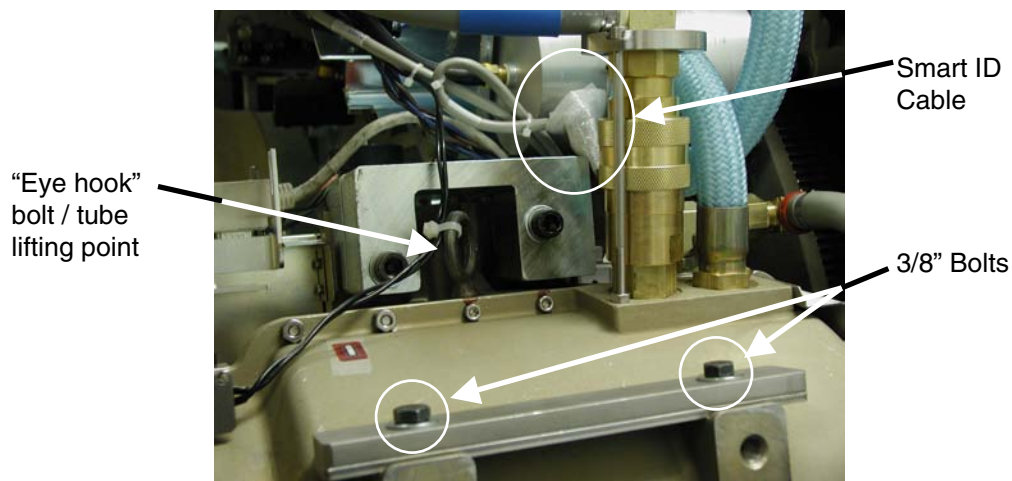

Fig 1 – Performix Pro Config without Smart ID
- 9) Connect Smart ID cable to Smart ID board. You will find this cable coming from the Jedi Inverter, connector J5, which also connects to the heat exchanger power i/f board. The Smart ID cable is the disconnected portion of the Y cable. See figure 1 if necessary.
- 8) Connect Smart ID cable to Smart ID board. You will find this cable coming from the Jedi Inverter, connector J5, which also connects to the heat exchanger power i/f board. The Smart ID cable is the disconnected portion of the Y cable. See figure 1 if necessary